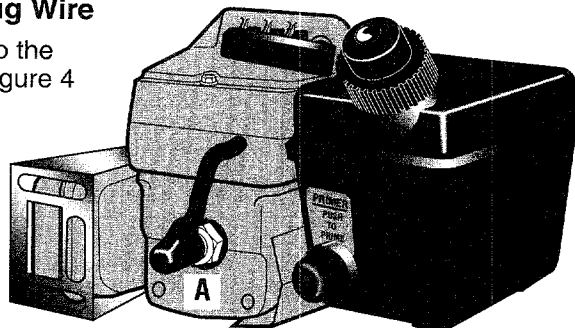

Figure 4: Securely connect spark plug wire (A) to the spark plug.
- **Before starting any assembly steps, disconnect the engine spark plug wire from the spark plug. Refer to Figure 4 on Page 9.**
- Connect the spark plug wire to the spark plug securely. Refer to Figure 4 below.